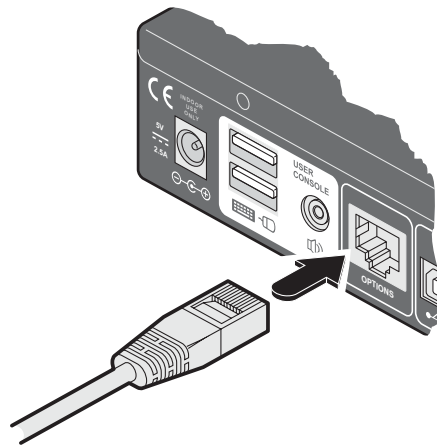

Figure 3-8. Link cable to the OPTIONS port on the rear panel.
1. Insert the 8p8c or 10p10c connector of the cable to the OPTIONS port on the rear panel of the unit. See Figure 3-8.